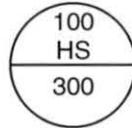

Figure 76. Instrument Tag
2. Identify the loop and area the device is in using the instrument tag in figure 76.